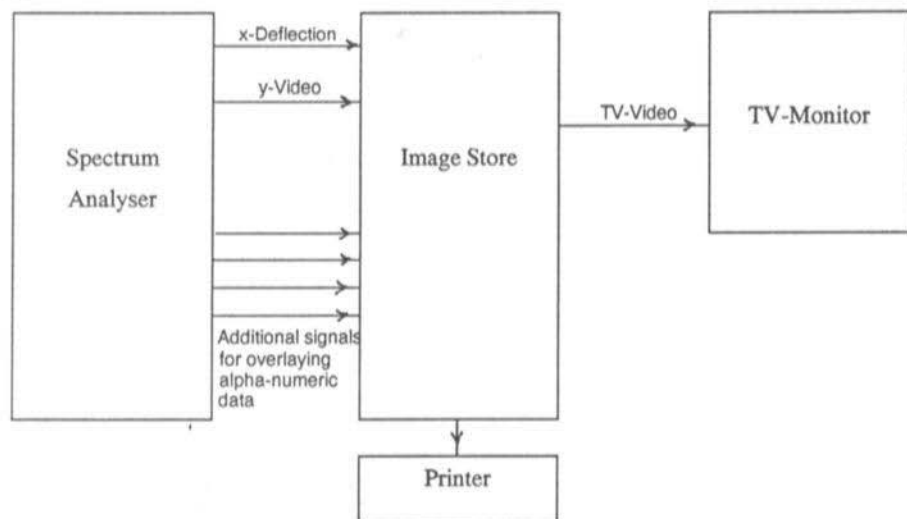

Fig.3: Image store with raster-display screen
3. the "raster screen display" of Fig.3 demonstrates a complete change from the